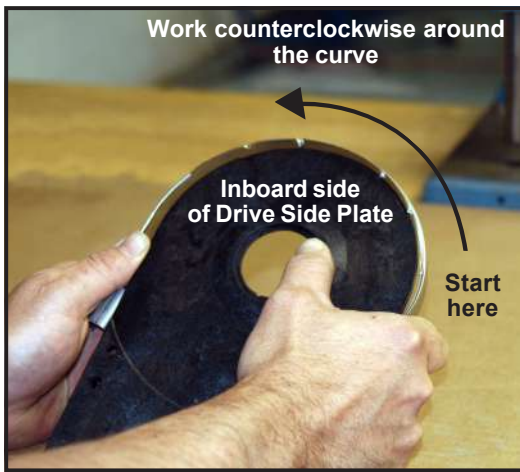
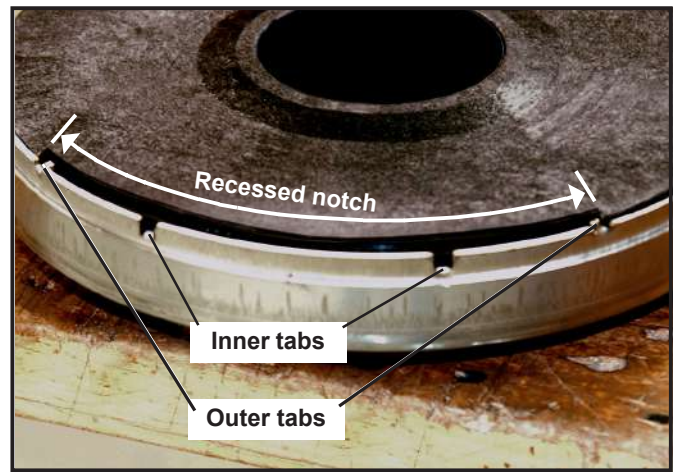

Figure 15
Figure 16
1. While holding the Drive Side Plate with the inboard side toward you (*Figure 15*), begin at right and work counterclockwise around the curve as you fit the horseshoe to the Plate (if you are left-handed, you may want to reverse this direction). Ensure that the four tabs are aligned with the recessed notch at the end of the Drive Side Plate (*Figure 16*).